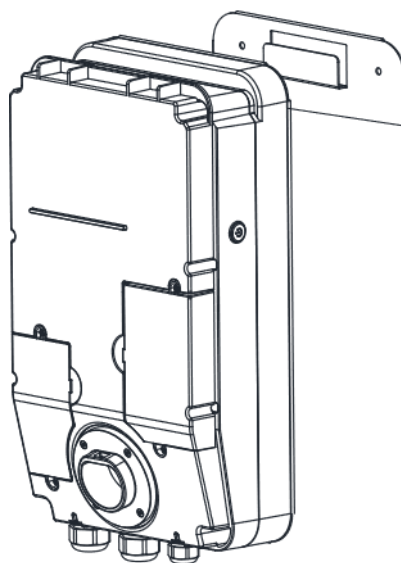

Figure 4.2
(1) Lightly pick up the outer cover of the Wallbox and put it aside.
(2) Hang the main body of the Wallbox on the metal backplate, making sure to align left and right, as shown in **Figure 4.2**.